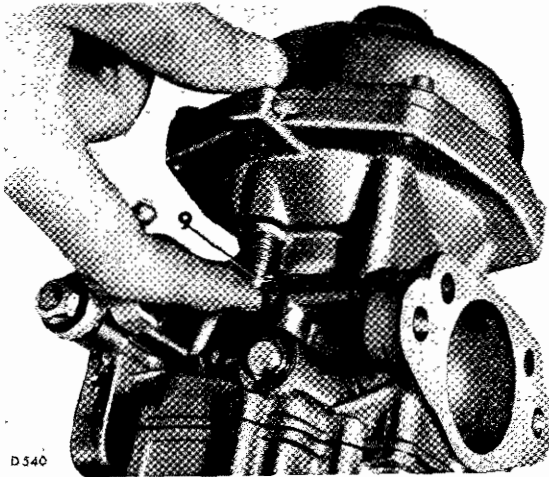

Fig. 17. Checking air valve for freedom with spring-loaded pin (9)
Efficient operation of the carburettor depends upon a freely moving air valve and a correctly centred needle in the jet orifice. The air valve may be checked for freedom by lifting the valve with the spring-loaded pin (9) (Fig. 17). A valve failing to fall freely indicates a sticking valve, or an off-centred jet, and/or the needle (29) fouling the jet orifice. Rectify by removing and cleaning the valve and bore in paraffin, or by re-centralsing the needle in the jet.